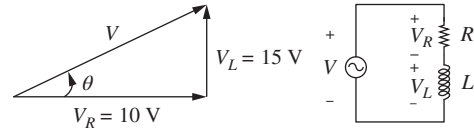

Figure P4.16 Voltage phasor diagram of RL circuit.
- 4-16.** In an RL circuit, the voltage across the inductor V_L leads the voltage across the resistor by 90° as shown in Fig. P4.16. If $V_R = 10$ V and $V_L = 15$ V, find the total voltage $\vec{V} = \vec{V}_R + \vec{V}_L$.